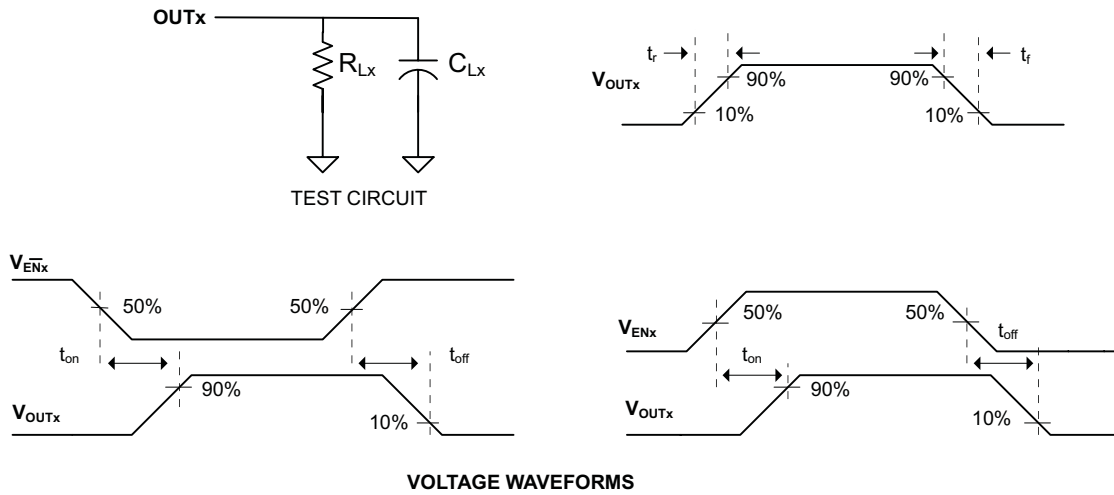

Figure 2. Test Circuit and Voltage Waveforms
|                                                      |                                                                                                                                               | $V_{IN} = 2.5$ V                                    | $C_{Lx} = 1$ μF, $R_{Lx} = 100$ Ω,(see Figure 2) | 1                  | 2    |      | 3   |
| $t_{on}$                                             | Turn-on time (2)                                                                                                                   | $C_{Lx} = 1$ μF, $R_{Lx} = 100$ Ω, (see Figure 2)   |                                                      |                    | 9    | ms   |     |